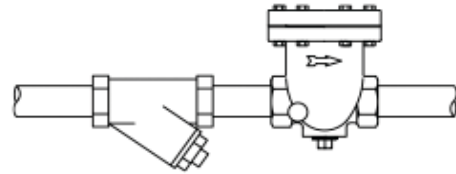

Figure 3. N450 Series Industrial Traps have either vertical or horizontal outlets. Pipe plug is for draining if there is danger of freeze-up.
8. Install an Emerson strainer, a dirt pocket or both, close to trap inlet. See Figures 3, 4 and 5.